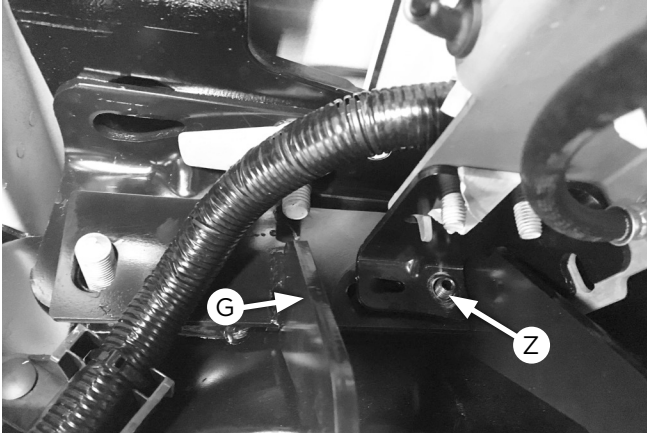
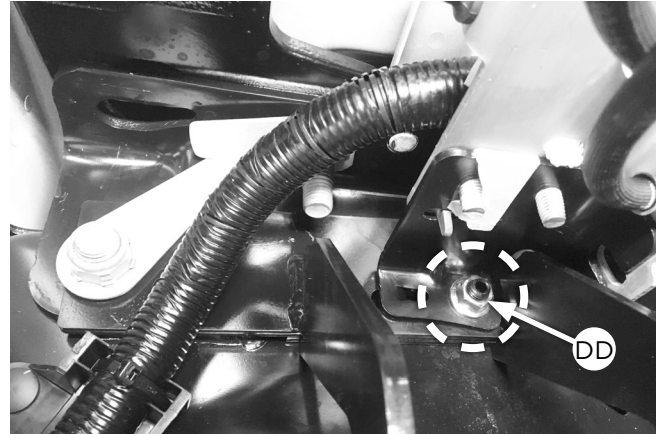

Fig. 36
Fig. 37
- Set the upper brace (G) in place over the 50mm set screw (Z) and against the frame (Fig. 36). Ensure the hole in the rear of the brace lines up with the fifth wheel bracket hole in the frame. Set the stock brake line bracket, previously removed, over the 50mm set screw and on top of the brace. Thread the M10 serrated flange lock nut (DD) onto the set screw. Reinstall the factory fifth wheel hardware previously removed (if equipped) or use the supplied 5/8" (AA, BB, CC) hardware through the frame and brace (Fig. 37). Leave loose at this time.